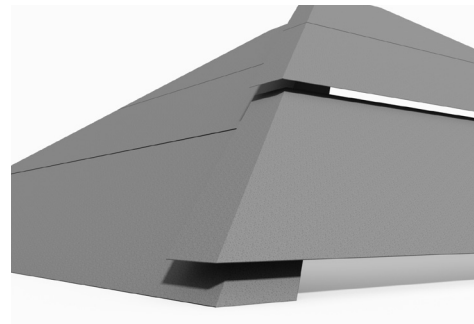

fig 7: Hip laps
7. The Danelaw LR120T should extend over any hips and overlap the underlay on the opposite side of the hip by not less than 150mm beyond the junction line (fig. 7). Alternatively, lay a strip not less than 600mm wide along the length of the hip and over the underlay on either side.